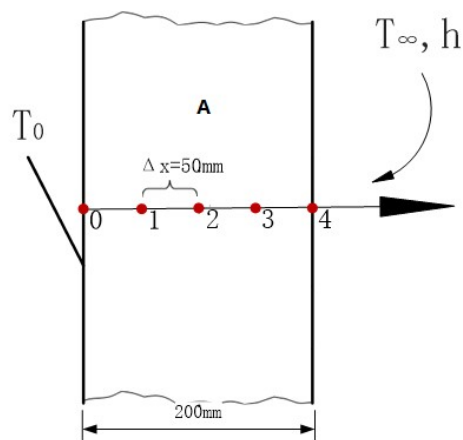

Figure 5. Insulation layer with nodes.
a. An insulation layer (conductivity $k=0.01\text{W/mK}$, length 200mm) is shown in Figure 5, where $T_0=20\text{ }^\circ\text{C}$ and its right side loses heat by convection to the surrounding air of $T_\infty=0\text{ }^\circ\text{C}$ with heat transfer coefficient $h=5\text{W/m}^2\text{K}$. Use 5 nodes and the finite difference scheme to calculate the temperatures at node 1 to node 4